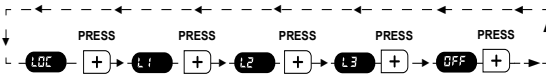

Figure 10
- Press the **Menu** (  ) button five times to display the Lock Menu (Figure 10). The LED screen will display “LOC.”